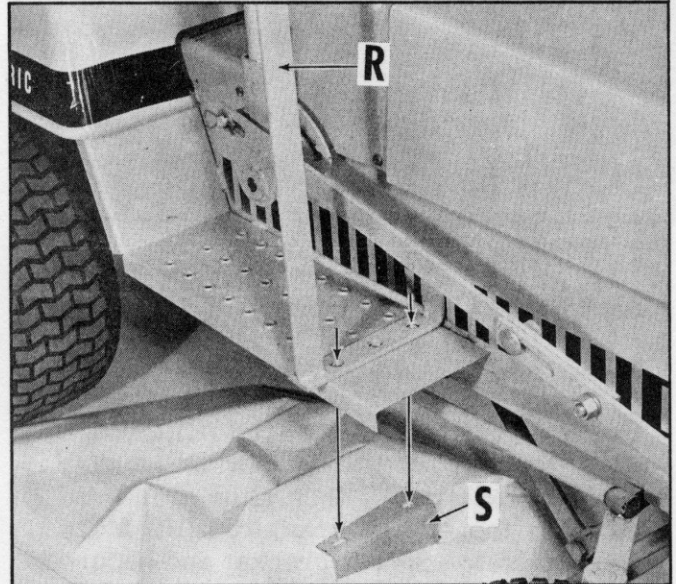

Fig. 18
Place crank rod support (R) over front three holes on foot rest. Align mounting bracket (S) under foot rest in the position as shown (Fig. 18). Insert 1-1/2 flat washer onto two 1-1/4 hex. head bolts; thread bolts down through mounting bracket (S). Secure with 7/8 flat washer, 3/8 med. lock washer and hex. nut.